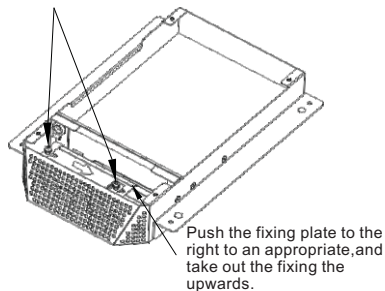

Figure 6.40 Schematic diagram of plasma module maintenance step 3
- (4) Loosen some threads of the screws on the cover plate and push them to one side, as shown in Figure 6.40.